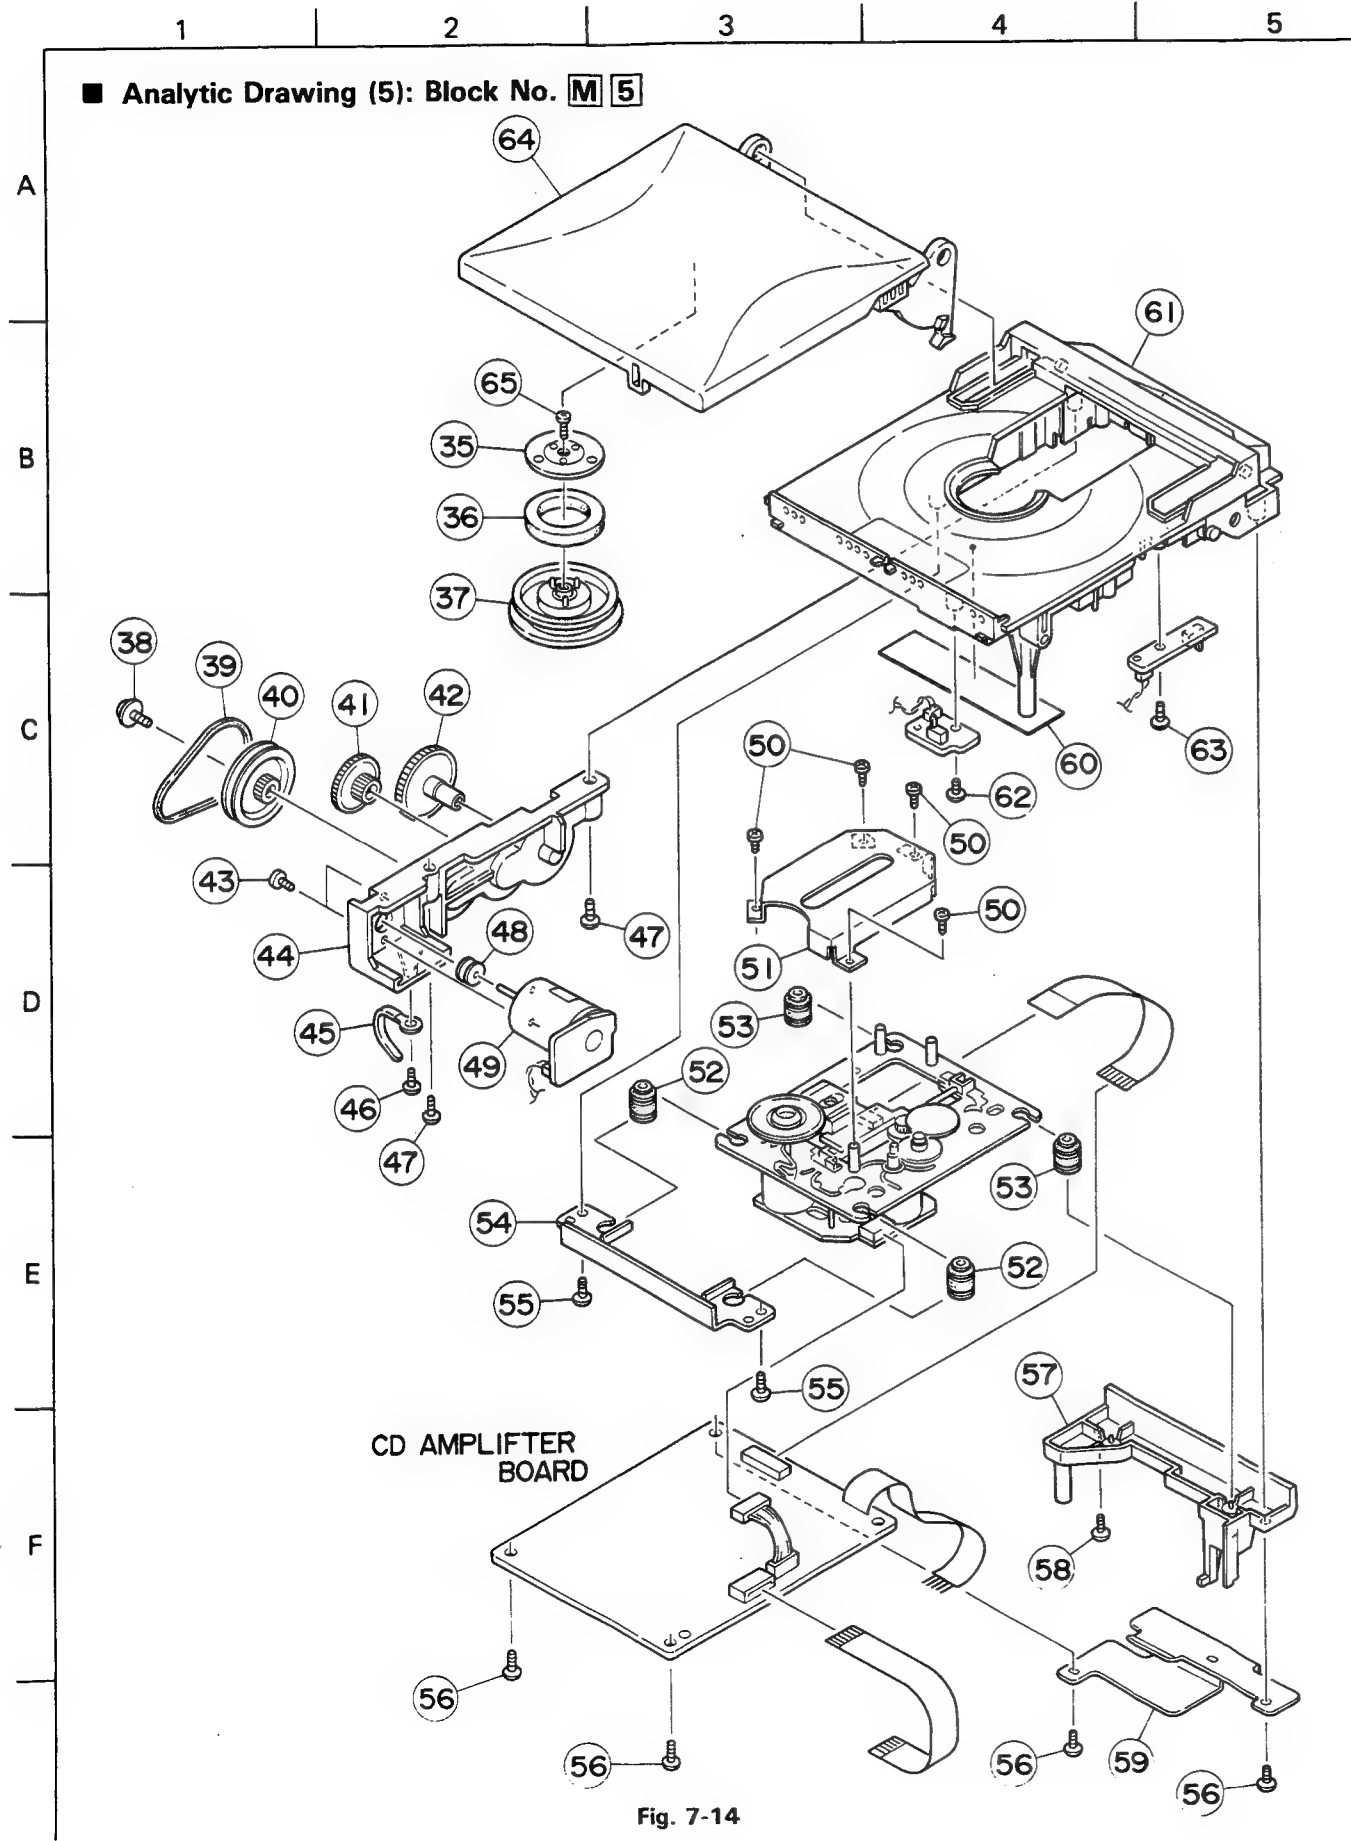

Fig. 7-14
- **CD Amplifier P.C. Board** (Fig. 7-14, 15)
1. Remove the three screws (56) retaining the CD amplifier P.C. board from the CD player ass'y.
- **CD Mechanism Ass'y** (Fig. 7-14, 16)
- **CD Door Motor Ass'y** (Fig. 7-14, 16 ~ 18)
- **CD Door Motor Ass'y** (Fig. 7-14, 16)